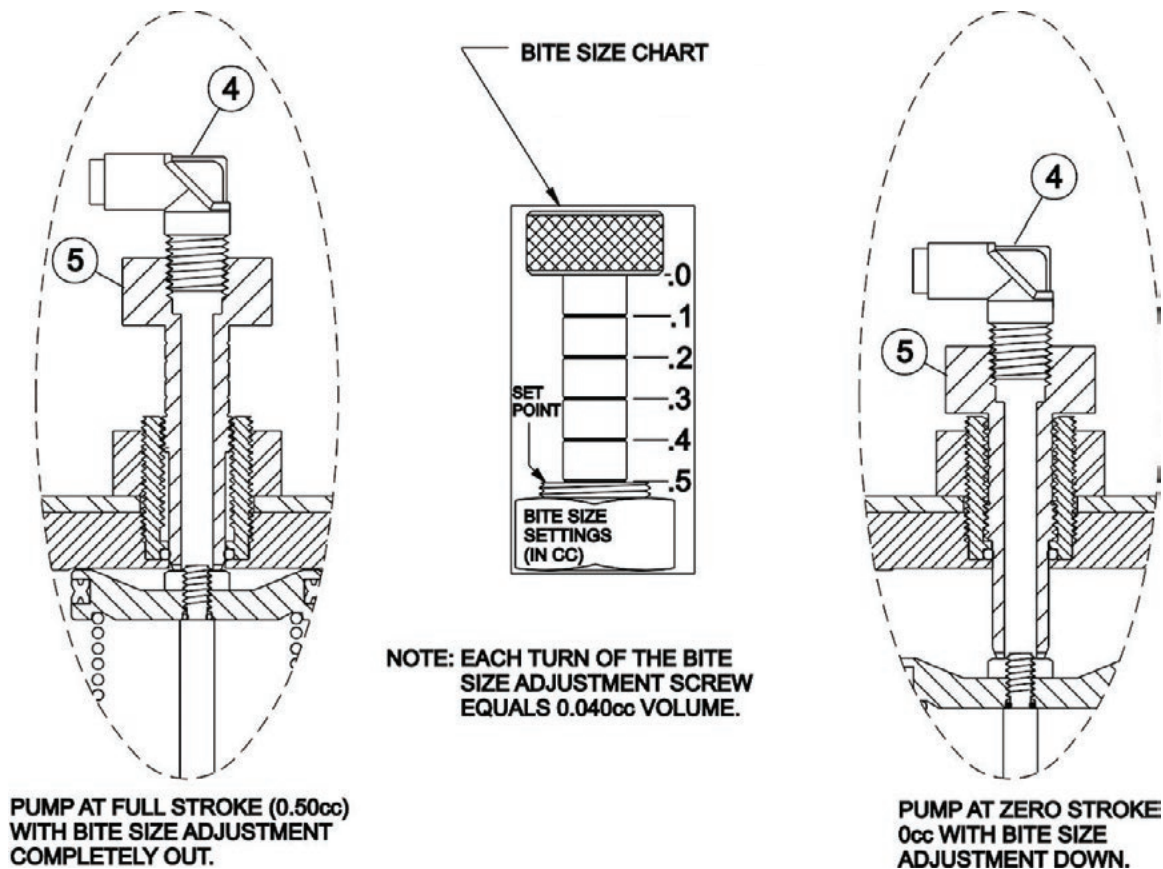

Figure 13: Adjusting Bite Size
1.1 Adjusting Bite Size (refer to Figure 13)